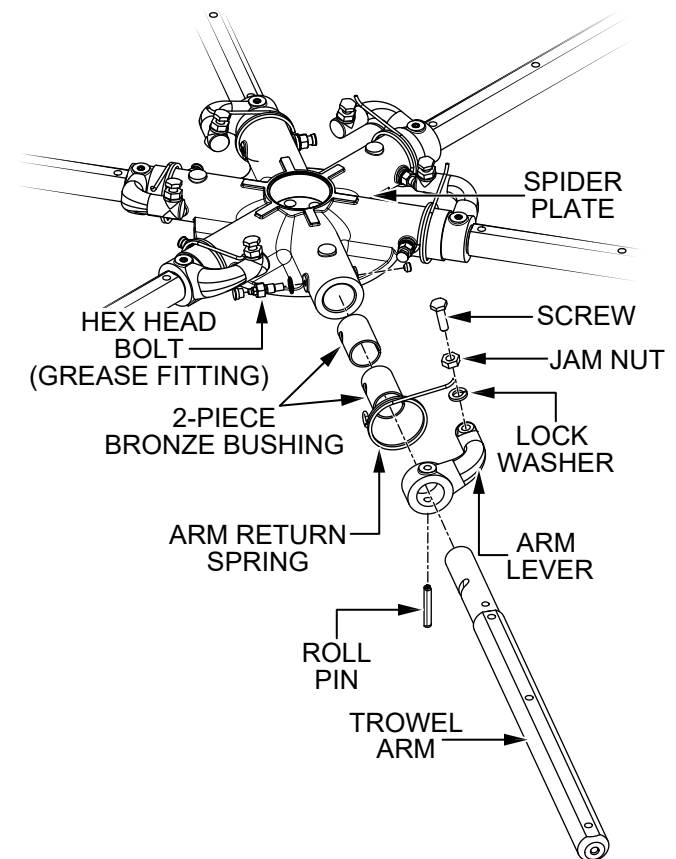

Figure 80. Trowel Arm Removal
2. Each trowel arm is held in place at the spider plate by a hex head bolt (Zerk grease fitting). Remove the hex head bolt (Figure 80) from the spider plate.
3. Remove the trowel arm (Figure 80) from the spider plate.